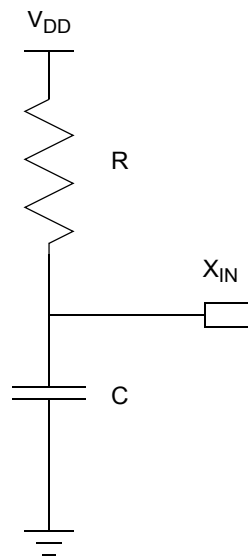

Figure 40. Connecting the On-Chip Oscillator to an External RC Network
Figure 40 displays a recommended configuration for connection with an external resistor-capacitor (RC) network.